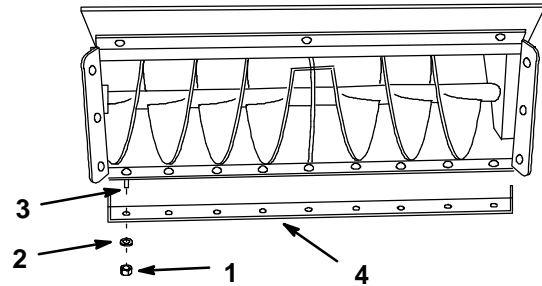

Figure 9
2. Remove the nuts, washers, carriage bolts, and scraper blade (Fig. 9).
3. Replace the scraper blade and secure the new blade with the previously removed hardware (Fig. 9).